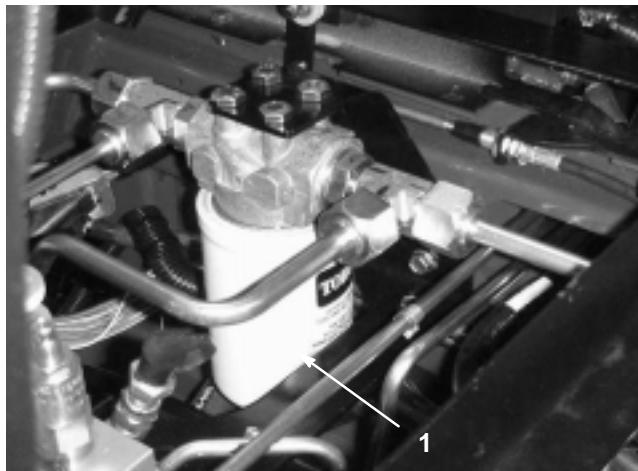

Figure 41
- Clean the area around the filter mounting area. Place a drain pan under the filter and remove the filter (Fig. 41 & 42).